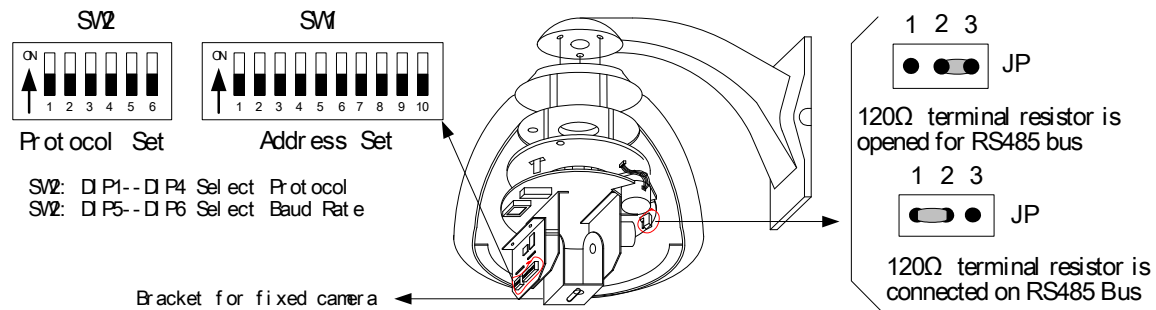

Figure 2
2. **Setup of Coding Switch of Dome Camera.** As shown in Figure 2, SW1 is used to set address of the dome camera from 1 – 1023. The ID-CODE from DIP-10 to DIP-1 are equivalent to a 10-bit binary digit. DIP-10 is MSB while DIP-1 is LSB. The state “ON” of each bit means 1 while “OFF” means 0. Following table shows states of coding switches of some addresses.
- 3. Setup of the Protocol and the Default Baud Rate.** As shown in Figure 2, SW2 is used to set the protocol of communication and the baud rate used by the dome camera. DIP-4 to DIP-1 of SW2 is used to select protocols and 16 different protocols can be selected in maximum. Following table shows states of coding switches of protocols selected by the dome camera
- 4. Setup of the Baud Rate of Communication.** As shown in Figure 2, SW2 is used to set the protocol of communication and the baud rate used by the dome camera. DIP-6 and DIP-5 of SW2 are used to select the baud rate of communication and 4 different baud rates can be selected in maximum. If the controller adopts non-standard baud rate, you can adjust it to be identical with that of the controller as per the following table.
- 5. Selection of the Terminal Resistor of the Dome Camera.** As shown in Figure 2, JP is the select switch of the 120 Ω terminal resistor on the bus RS485, on which only one terminal resistor of the dome camera at the farthest end can be connected, while the terminal resistors of other devices should be opened.
4. Based on the ID-CODE shown as Figure 2, set up the protocol used by the camera and the baud rate as per the state according to Table 1. Check the address of the camera to see if it is matched with that you need. If not, set the address of the dome camera at corresponding position as per Table 1.